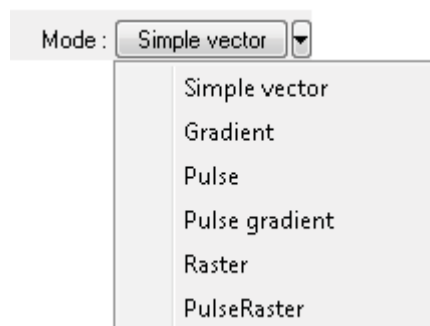

Fig. 13-51. Selecting the lithography mode
4. In the **Mode** drop-down list select the mode of raster lithography (Fig. 13-51):